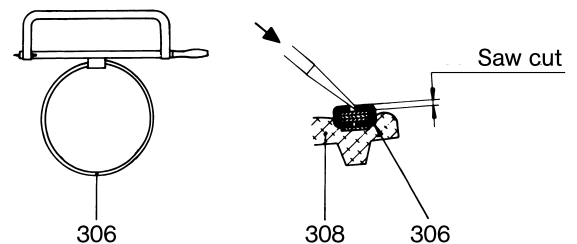

Figure 2: Removal of the joint clamp.
- Remove hexagon nuts (607) and washers (608).
- Withdraw suction casing (505) over the rotor (401). In doing so, see to it that the fine-machined rotor is not damaged.
- Remove gasket for suction casing (501).
- Drive the locking pin on the side where the rotor is (307) using a drift punch into the cavity of the hinge pin (307). Pull the rotor (401) together with the joint on the worm shaft (307).
- Cut lock at the joint clamp (306) by means of a metal cutting saw, and with a screw driver, press out to both sides. Remove joint clamp (306) from the joint collar (308) (please refer to Figure 2).